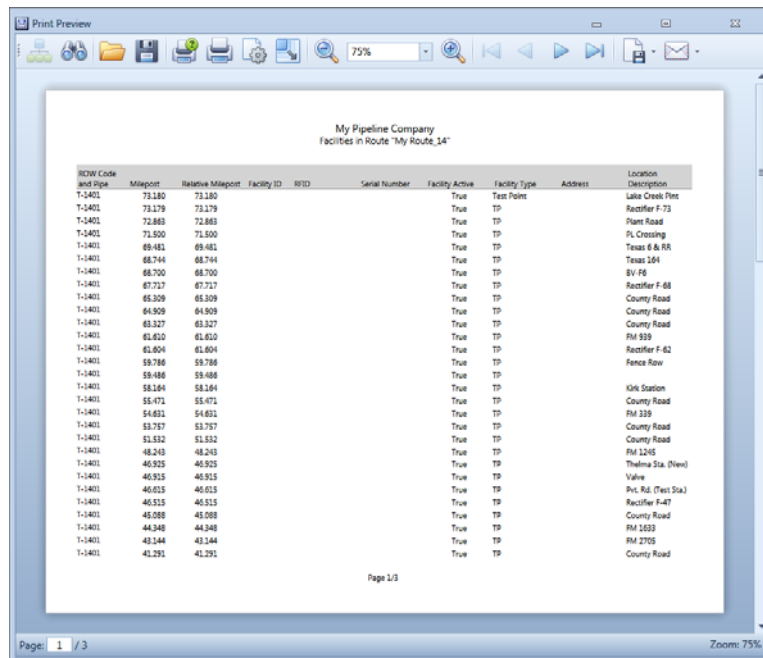

Figure 8-54. Print Preview
Selected facilities are those included in the route. These facilities are also listed in the *Facilities in Route* grid of the *Define Routes* window (Figure 8-54, page 413). Available facilities are linked to the current ROW selection, but are *not* included in the route. Available facilities are listed in the *Facilities Available* grid of the *Define Routes* window.
- To view selected facilities in a *Print Preview* window (Figure 8-54), click the  **Selected Facilities** button in the *Facilities in Route* grid.